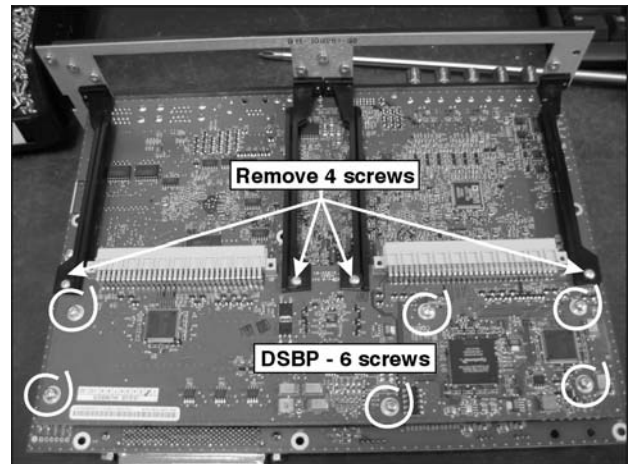

Figure 13. Removing the Dual Slot Backplane (DSBP)
2. Remove the four (4) self-taping screws from the card guides located at the DSBP. (If you want to remove the card guides completely, remove the additional four (4) screws from the input panel.)
3. Remove the six (6) screws securing the PCB to the TIPM. (Figure 13)